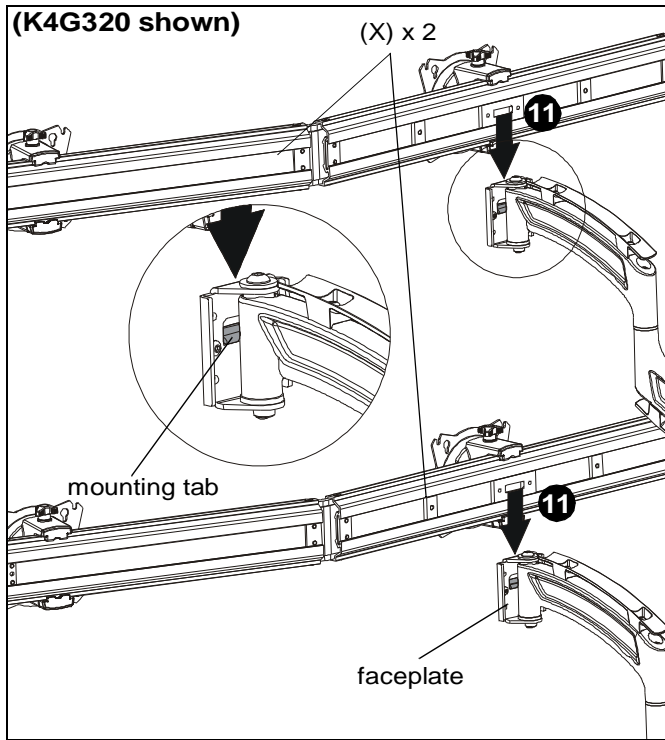

Figure 5
11. Hang two array arms (X) onto column arm faceplates using the mounting tab on the faceplates. (See Figure 5)